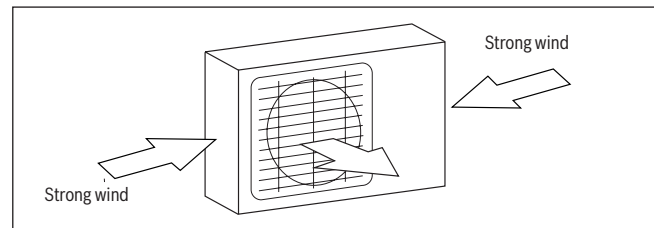

Fig. 11.
- ▶ If the location is exposed to strong winds (for example: coastal area), the unit must be placed against the wall to shelter it from the wind. If necessary, use an awning. (See Fig. 11 & 12)